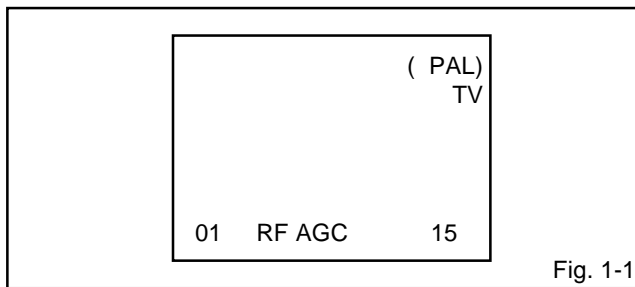

Fig. 1-1
2. Press the VOL. DOWN button on the set and the channel button (**9**) on the remote control for more than 2 seconds to display adjustment mode on the screen as shown in **Fig. 1-1**.
3. Activate the adjustment mode display of **Fig. 1-1** and press the channel button (**13**) on the remote control to select "VCO COARSE".
4. Activate the adjustment mode display of **Fig. 1-1** and press the channel button (**01**) on the remote control to select "RF AGC".
4. Activate the adjustment mode display of **Fig. 1-1** and press the channel button (**39**) on the remote control to select "REC AGC".
3. Activate the adjustment mode display of **Fig. 1-1** and press the channel button (**08**) on the remote control to select "H POSI (50)".
3. Activate the adjustment mode display of **Fig. 1-1** and press the channel button (**09**) on the remote control to select "V POSI (50)".
4. Check if the step No. V. POSI (50) is "00".
8. Check if the step No. V. POSI (60) is "05".
3. Activate the adjustment mode display of **Fig. 1-1** and press the channel button (**11**) on the remote control to select "V SIZE (50)".